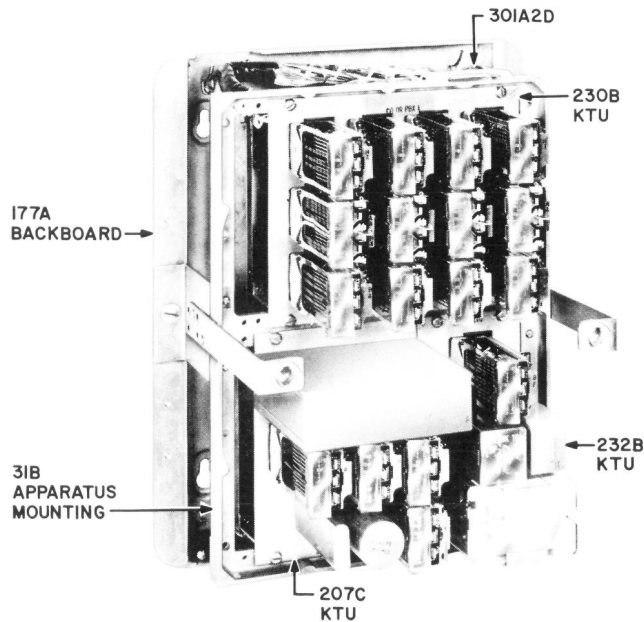

Fig. 1 — 301A2D KSU, Cover Removed
2.07 Fig. 1 shows a 301A2D key service unit arranged for wall mounting.